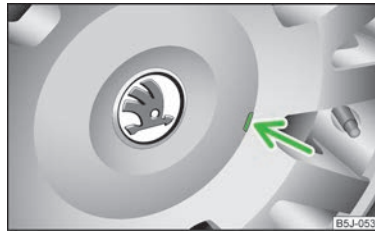

Fig. 129
- Carefully remove the wheel trim cap using the wire clamp from the vehicle tool kit » Fig. 129.